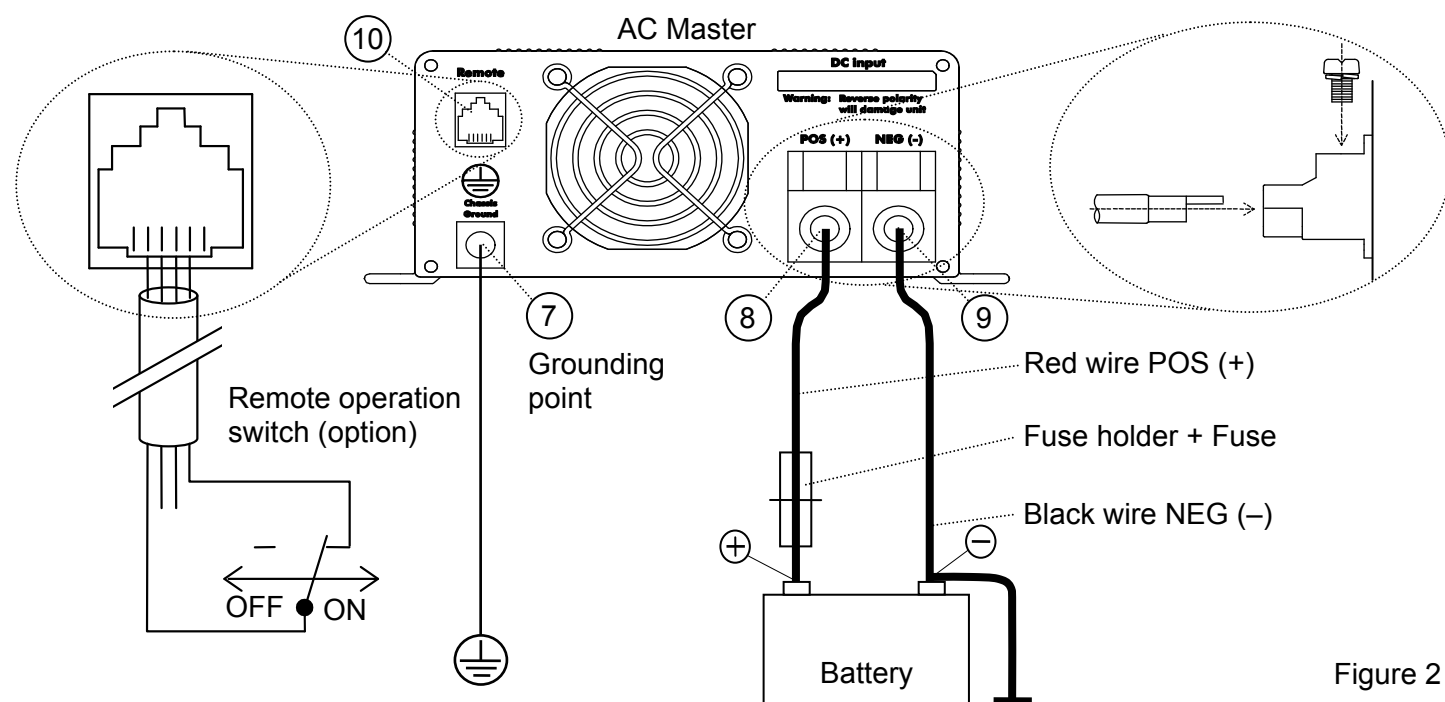

Figure 2
- Connect DC wiring as shown in figure 2: the black terminal (9) NEG (–) to the negative (–) pole of the power source / battery, the red terminal (8) POS (+) to the positive (+) pole of the power source/ battery. Integrate a DC fuse holder in the positive wiring, but do not place the fuse yet. Assemble the DC wiring exactly as indicated. Do not place anything between the ring terminal and the terminal surface. Make sure that all DC connections are tight. Recommended torque: 11.7-13 Nm / 104-115 InLbs
- Chassis ground: Use a cable AWG8 / 6 mm² to connect the CHASSIS GROUND terminal (7) to the central ground.
- NOTE: the neutral connector N of the AC output (ref. 2) is NOT connected to the CHASSIS GROUND terminal (ref. 7).
- Remote operation switch (option). If you want to operate the AC Master on a remote location, you can install a switch as indicated in figure 2. When the contact is closed, the AC Master is switched on.